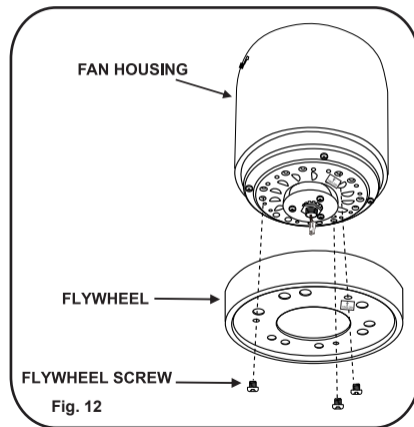

Fig. 12
Step 2. Pay attention to the labels named 'flywheel screw' on the motor and the flywheel. Start from this label and align the three holes on the motor to the three holes on the flywheel. Tighten them using with three flywheel screws (1/4"x6mm) securely.(Fig.12)